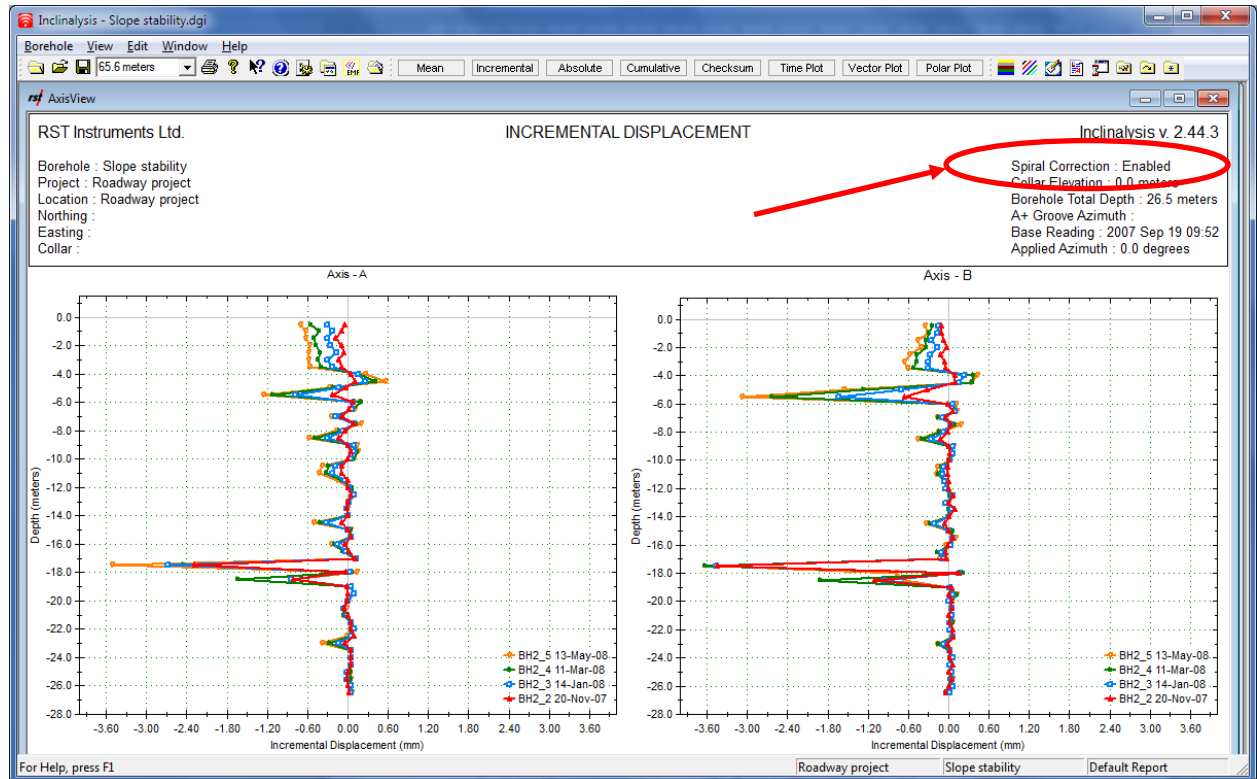

FIGURE 8-31 SPIRAL CORRECTION
- 5 Press **Apply** and the spiral correction will be automatically performed on the current data sets. Confirmation of the spiral correction will be shown in the top right of the title bar, which should read "Spiral Correction: Enabled", as shown in Figure 8-31: